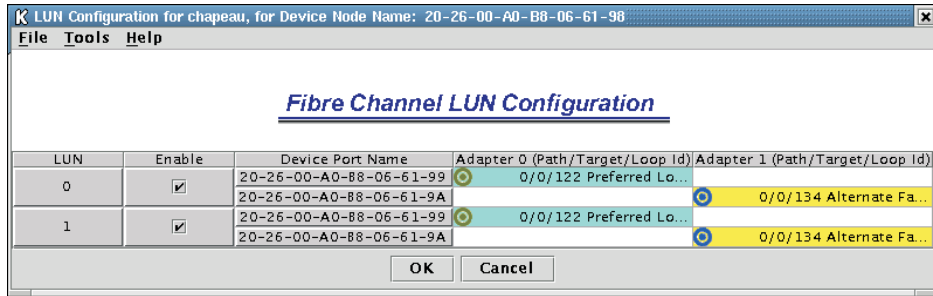

Figure 151. Fibre Channel LUN Configuration window
7. Click **Configure LUNs**. The LUN Configuration window opens (see Figure 151 on page 344).